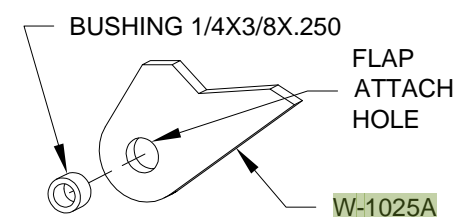

FIGURE 4: BUSHING PRESS FIT
Step 13: Press fit a BUSHING 1/4X3/8X.250 into the flap attach hole in each of the six **W-1025A** Flap Hinge Brackets. See Figure 4.